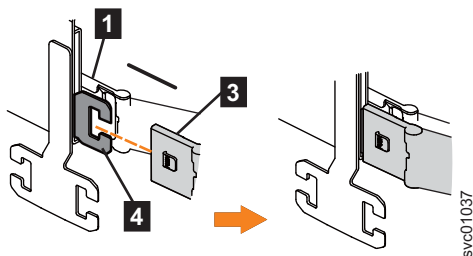

Figure 72. Install the inner connector of the upper CMA to the inner member of the support rail
3. Install the inner connector of the upper CMA assembly (**3**) to the inner member of the left support rail (**4**), as shown in Figure 72 on page 78.